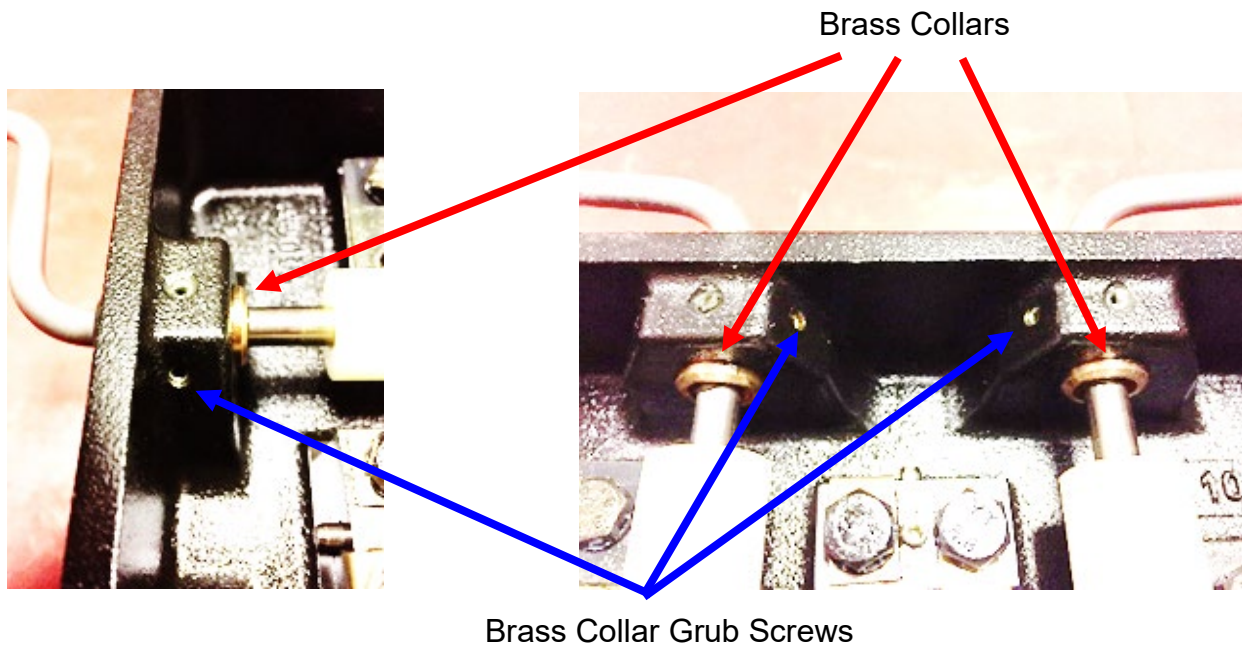

Figure 8 - Brass Collar and Grub Screw Locations
- Verify it is secure by checking the position of the grub screw heads. (See Figure 8).